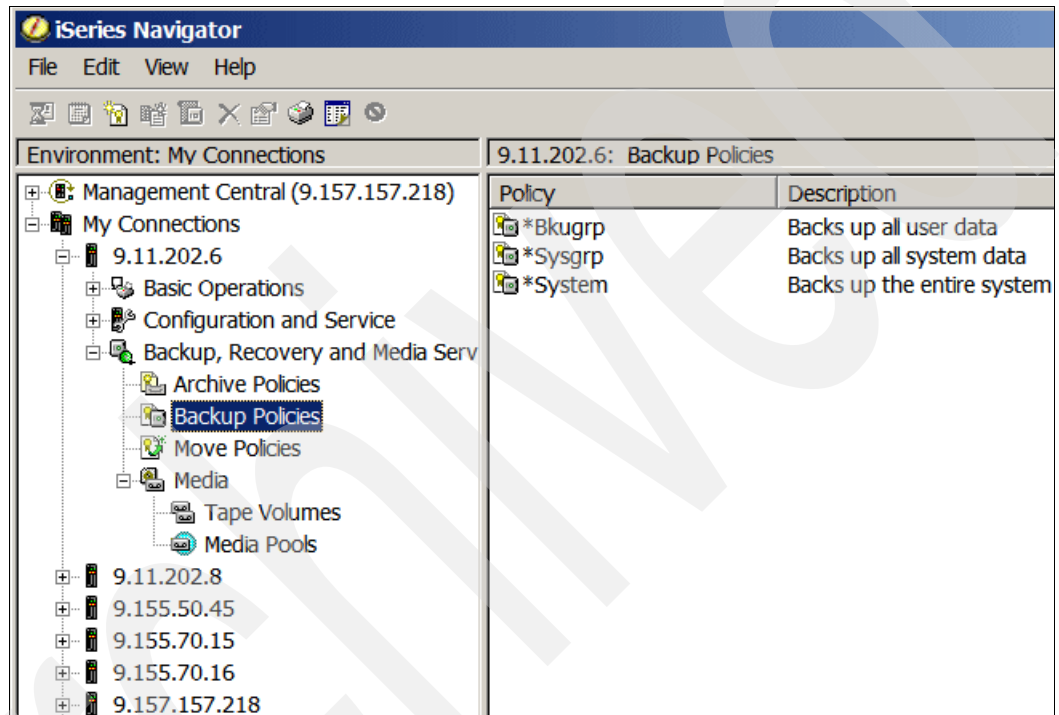

Figure 6-12 Backup policies
1. Still in the iSeries Navigator, connect to System i partition if not yet connected, expand *Backup Recovery and Media Services*, and expand *Backup Policies*. In the right panel you see the list of default backup policies, as shown in Figure 6-12. For more information about default control groups (backup policies in GUI), refer to “Backup control groups” on page 158.